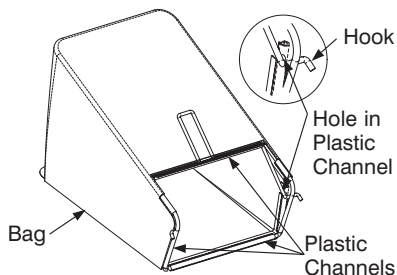

Figure 6
- Place bag over frame (black plastic side is the bottom of bag.) Insert the hooks on the frame through the holes in the side plastic channels of the bag. See Figure 6.
- Secure bag to frame by working the plastic channels on bag over frame as shown in Figure 6. All of the plastic channels except center top of bag attach from the outside of bag. Center top of bag attaches from the inside of bag.